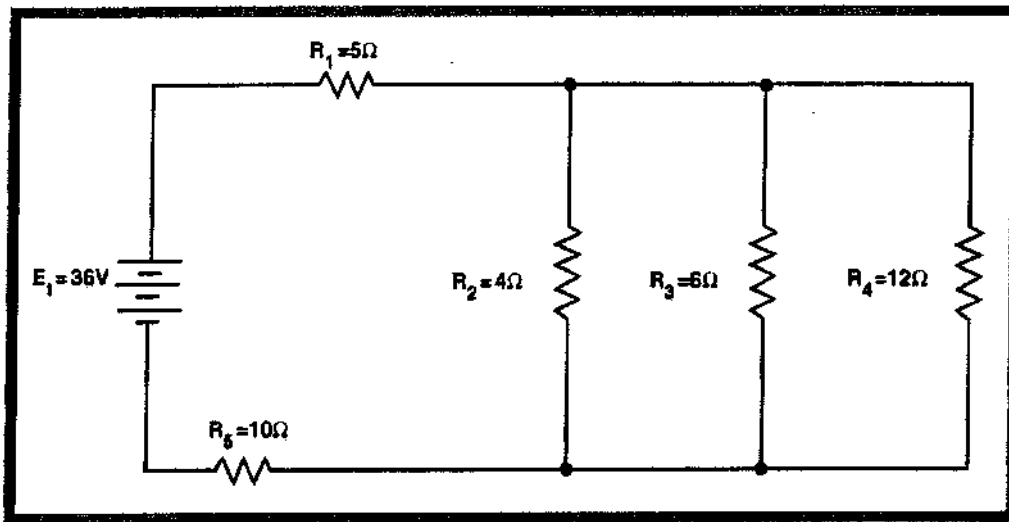

Fig. 9.12. Circuit Diagram.
39. (Refer to figure 9.12) The total resistance of the circuit is